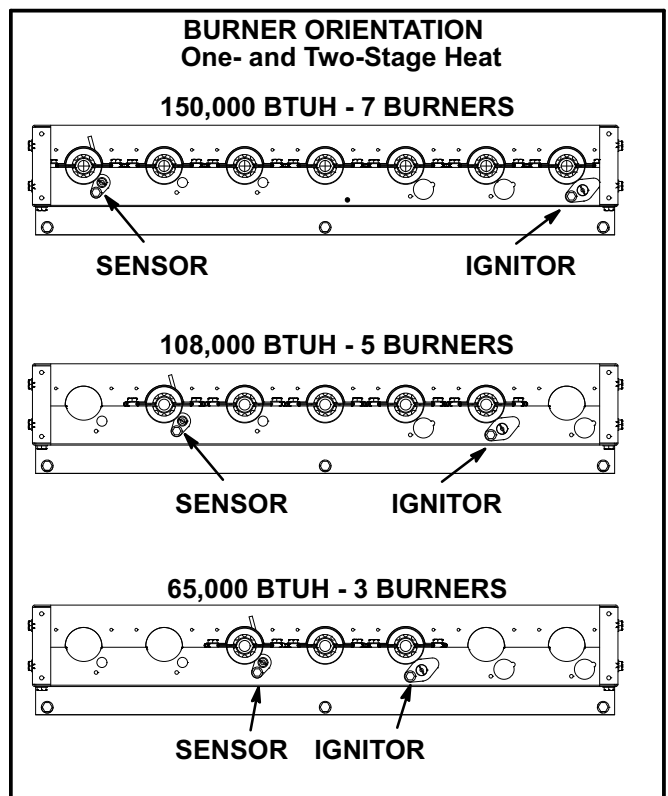

FIGURE 34
- 6- Replace burners and screws securing burner. See figure 34 or 35.